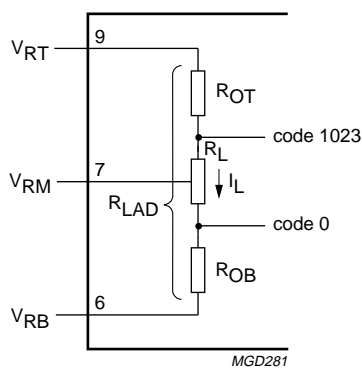

Fig.3 Explanation of note 3.
- In order to ensure the optimum linearity performance of such converter architecture the lower and upper extremities of the converter reference resistor ladder (corresponding to output codes 0 and 1023 respectively) are connected to pins  $V_{RB}$  and  $V_{RT}$  via offset resistors  $R_{OB}$  and  $R_{OT}$  as shown in Fig.3.